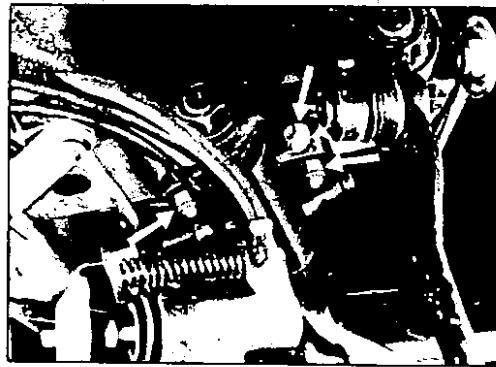

Fig. K.6 Removing the steering gear mounting bolts.
6. Remove the bolts securing the steering gear housing to the car body (Fig.K.6.) and pull the steering gear towards the engine compartment.